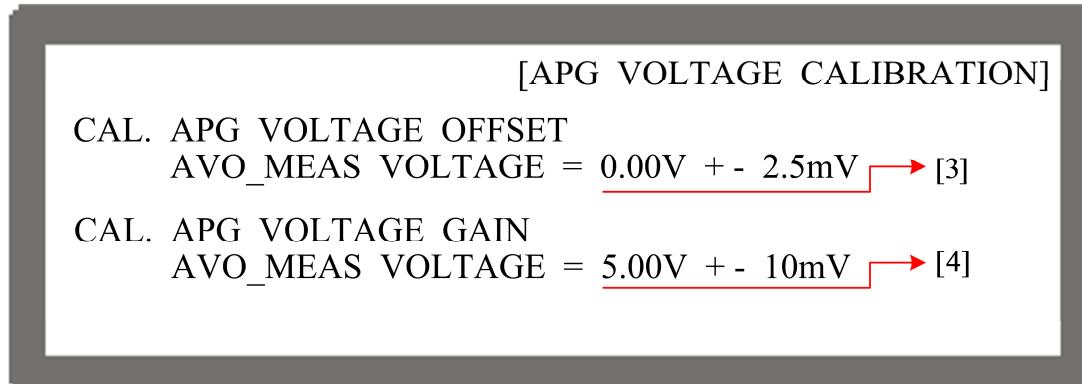

Figure 3-120
6. Press  and the cursor stops at position [3] as shown in Figure 3-120. Open the device cover and find VR402 (adjustable resistor) on the PCB of 62xxxP-xx-xx C ver.x. Set the DVM2 reading of Pin5 to be  $0.00V \pm 2.5mV$  by adjusting the resistance of VR402. Once the reading is adjusted, press  "ENTER" to confirm it.
7. Press “” and the cursor stops at position [4] as shown in Figure 3-120. Open the device cover and find VR401 (adjustable resistor) on the PCB of 62xxxP-xx-xx C ver.x. Set the DVM2 reading of Pin5 to be  $5.00V \pm 10mV$  by adjusting the resistance of VR401.